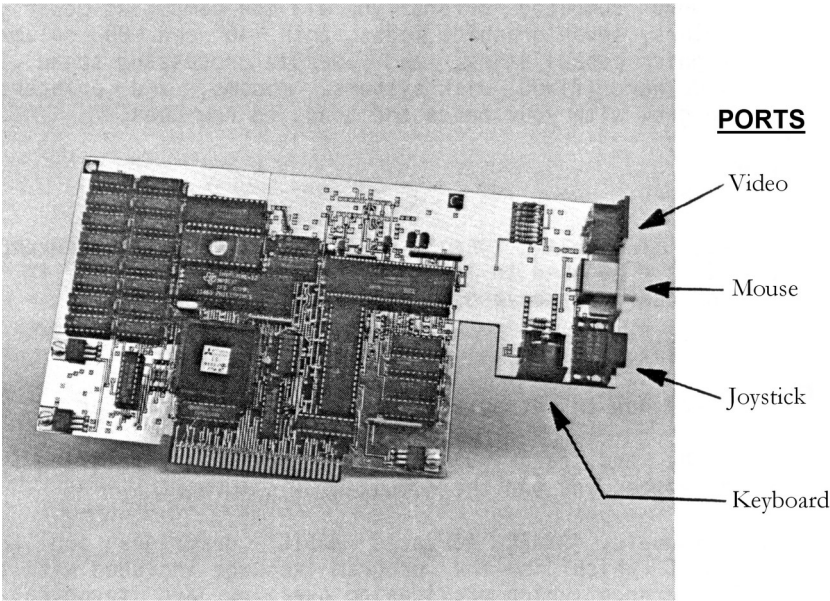

Figure 2 - The 9640 System Board (removed from clamshell case). Ports are at the rear of the board.
Figure 2 shows a top view of the 9640 System Board. Note the locations of the video, mouse, joystick, and keyboard ports at the back (to the right in the photo) of the computer board.
The composite video port (see Figure 2) allows you to connect a composite monitor, or television set with an RF modulator, to the 9640 computer.
Before inserting the MYARC 9640 Computer Card as in step 5 below, reset the pin located on the board directly in back of the combination video port, from GND to R (RED). See Figure 2, page 7. Also refer to Connector Pinouts, Appendix E, page in your MYARC Reference Manual.
8. Insert your keyboard, monitor, mouse, and joystick cables into the proper ports at the rear of the 9640 Computer Card. See Figure 2, page 7.